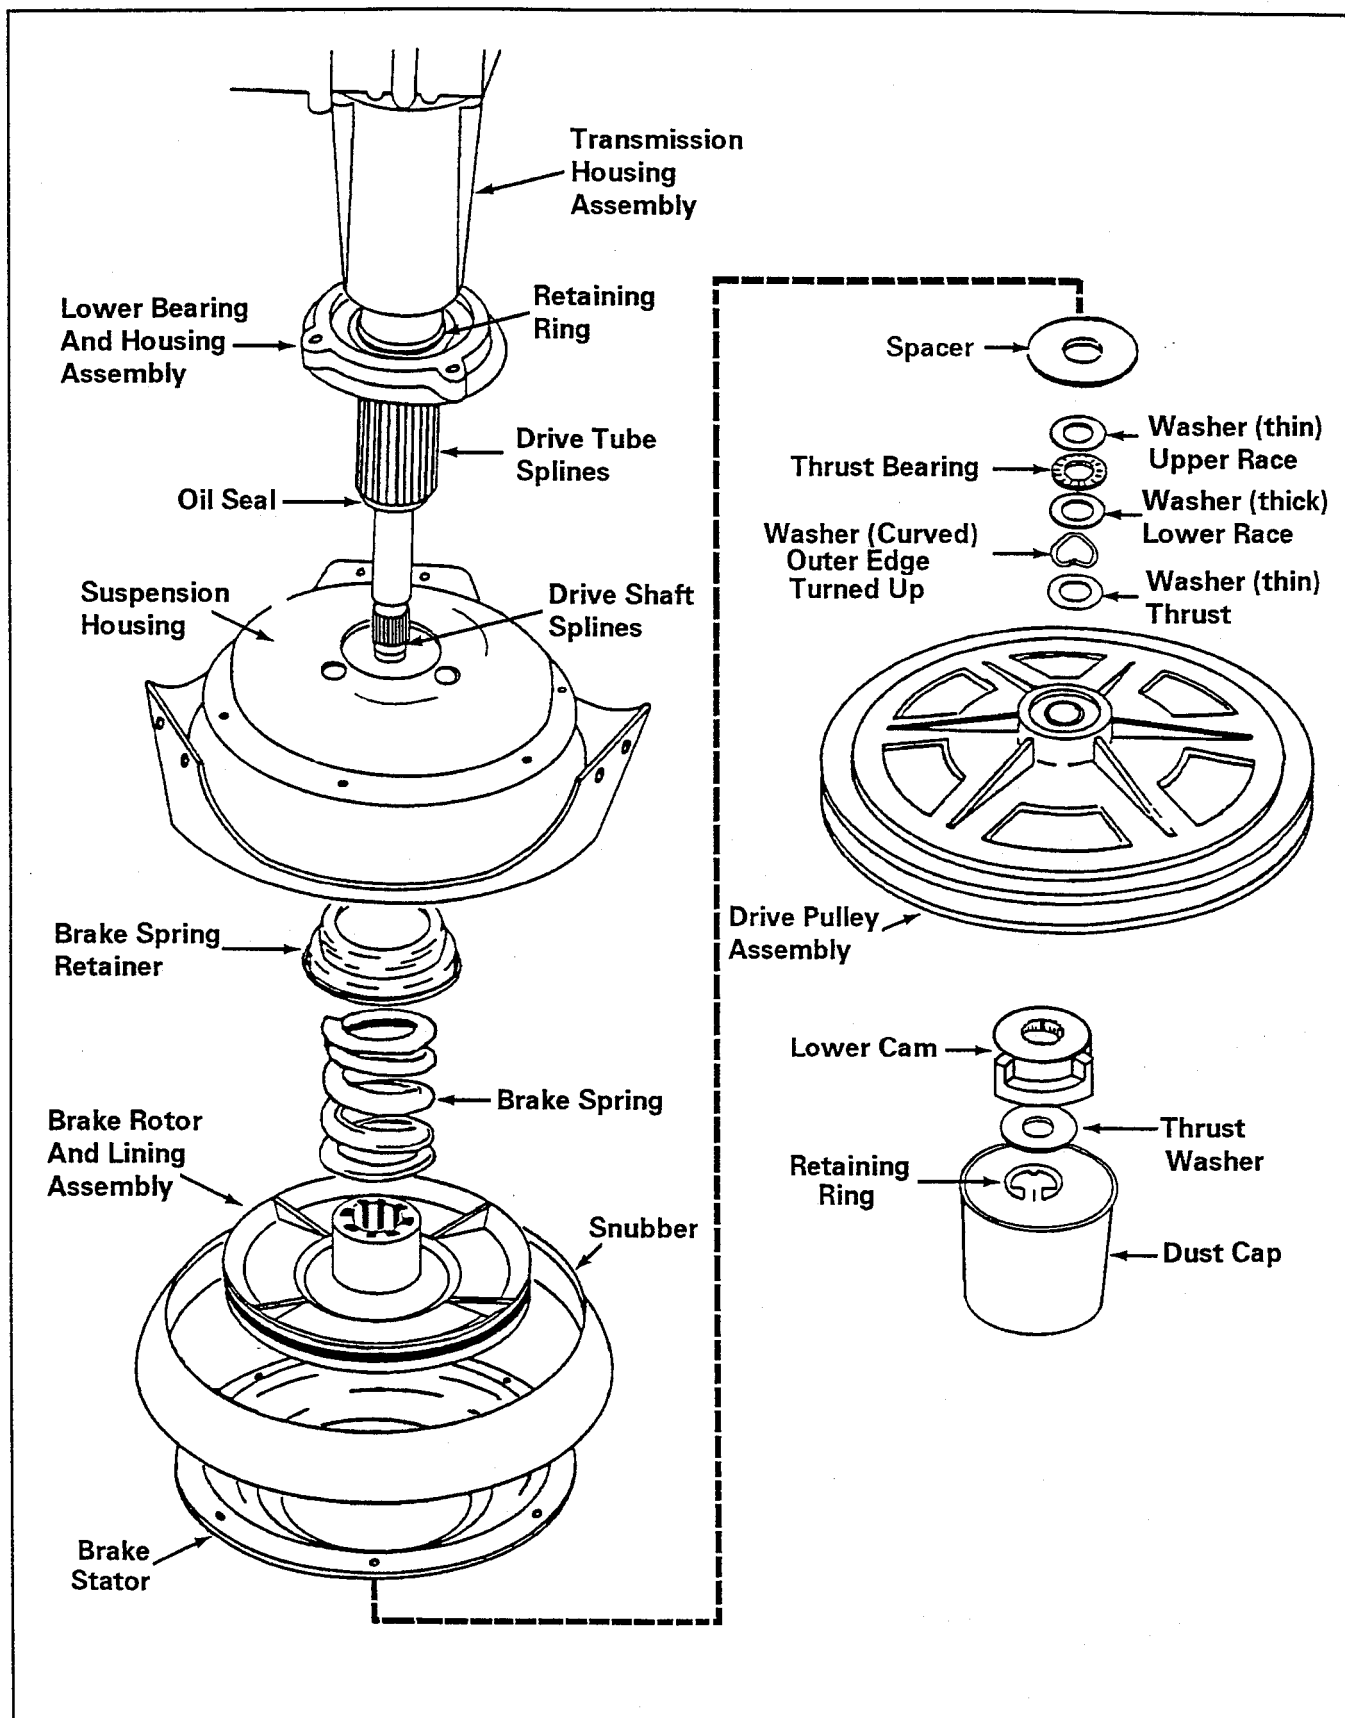

Figure 7-4
2. Remove the brake assembly to access the oil seal (*Figure 7-4*).